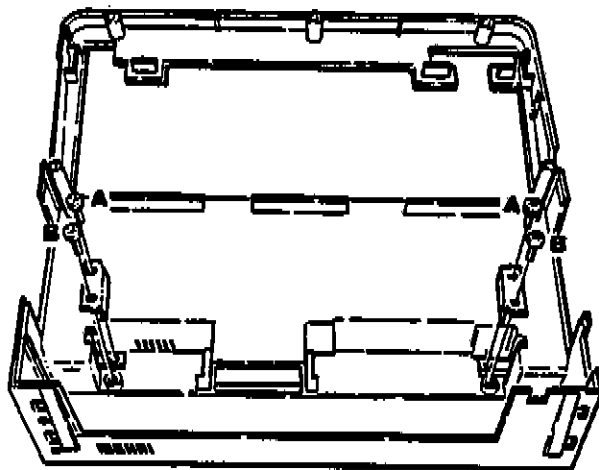

Figure 3-27. Retainer Screws
Refer to Figures 3-27 through 3-31 for the following steps.
2. Remove screw A with its washer and screw B from each retainer on the display assembly, as shown in Figure 3-27.